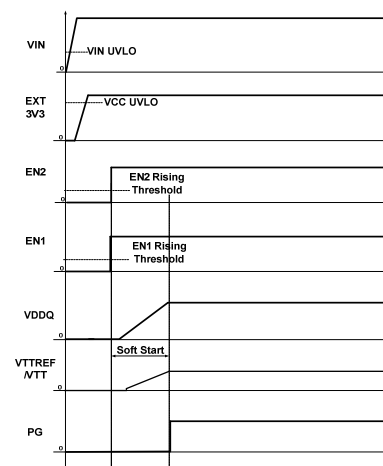

Figure 7: Start-Up Power Sequence
The MP8719 employs a soft-start (SS) mechanism to ensure a smooth output during power-up. When EN becomes high, the internal reference voltage ramps up gradually, and the output voltage ramps up smoothly as well. Once the reference voltage reaches the target value, the soft start finishes, and the MP8719 enters steady-state operation (see Figure 7).